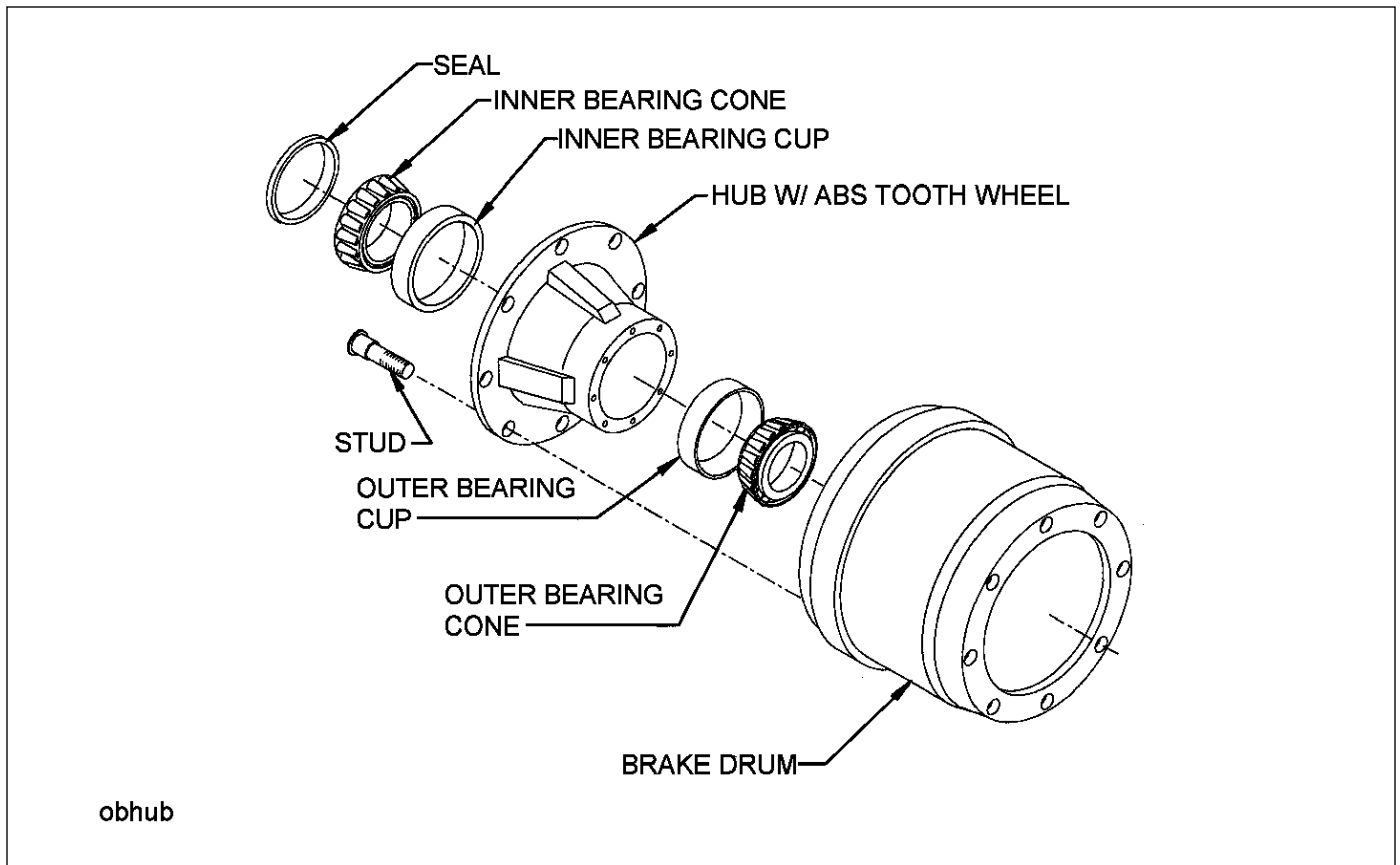

Figure 4-12: Outboard Mount Hub and Drum
3. Remove drum assembly (See Figure 4-12.)
4. Replace the hub and drum as follows (**See Figure 4-12.**):
- i. Place the drum over the hub and brake shoes being careful not to damage the threads on the studs (**See Figure 4-12.**) Make sure the drum seats flat against the hub flange and mates properly with the hub pilot. There should be no interference between the brake drum pilot chamfer and the corner radius on the hub. If interference exists, the hub will not be able to function properly.